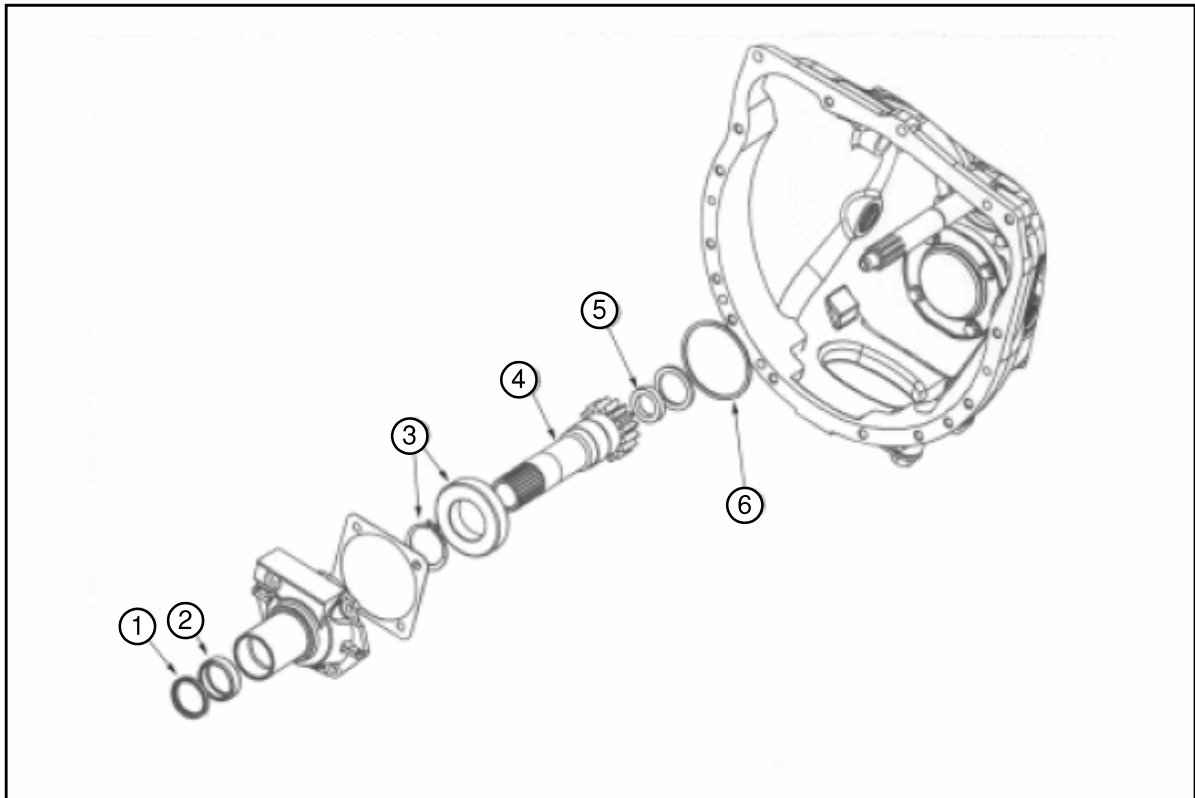

Fig. 8
4. Remove the PTO pinion shaft retaining ring. (Item 6 in Fig. 8).
6. If necessary remove the circlip and press the bearing off the Shaft. (Item 3 in Fig. 8) by using SER / 038 hand press tool.
7. Remove the PTO pinion shaft oil seal. (Item 5 in Fig. 8).
8. Remove the oil seal from main drive housing (Item 1 in Fig. 8).
9. Remove the needle roller bearing by using SER / 075 (Item 2 in Fig. 8).
1. Install the needle roller bearing into the housing by using SER / 075 (Item 2 in Fig. 8).
2. Fit a new oil seal into the housing by using SER / 036 and seal lip facing away from the tool. (Item 1 in Fig. 8).
3. Fit a new oil seal in the PTO pinion shaft with lip of the seal facing the tool by using SER / 076 (Item 5 in Fig. 8).
4. Refit the PTO pinion shaft bearing onto the PTO pinion shaft and refit the circlip, and check that it is properly seated. (Item 3 in Fig. 8).
6. Refit the circlip (Item 6 in Fig. 8) and check that it is properly seated.